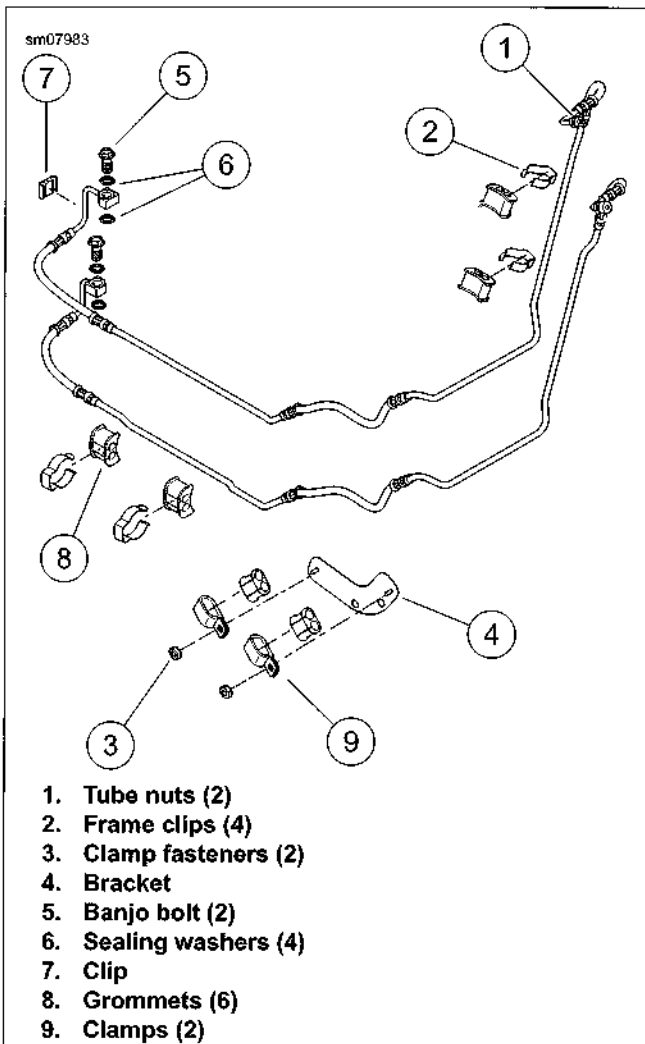

Figure C-9. Manifold to EHCUC Brake Lines
6. See Figure C-9. Remove tube nuts (1) from manifold.
7. Remove frame clips (2) on downtube.
8. Remove clamp (9) fasteners (3) at bracket (4).
12. Remove front brake line banjo bolts (5) and sealing washers (6) on EHCUC ports. Discard sealing washers.
13. Remove rear clip (7).